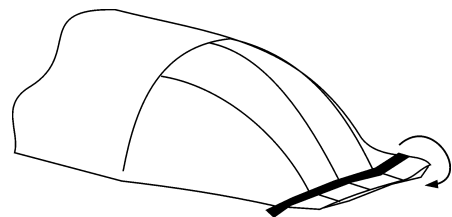

Figure 2 - Filling of the grain bag front end
6) Start feeding grain gradually, checking that the end of the grain bag is adequately filled and is lying evenly on the ground as shown in Figure 2. Remember that the front end of the grain bag must be turned over.